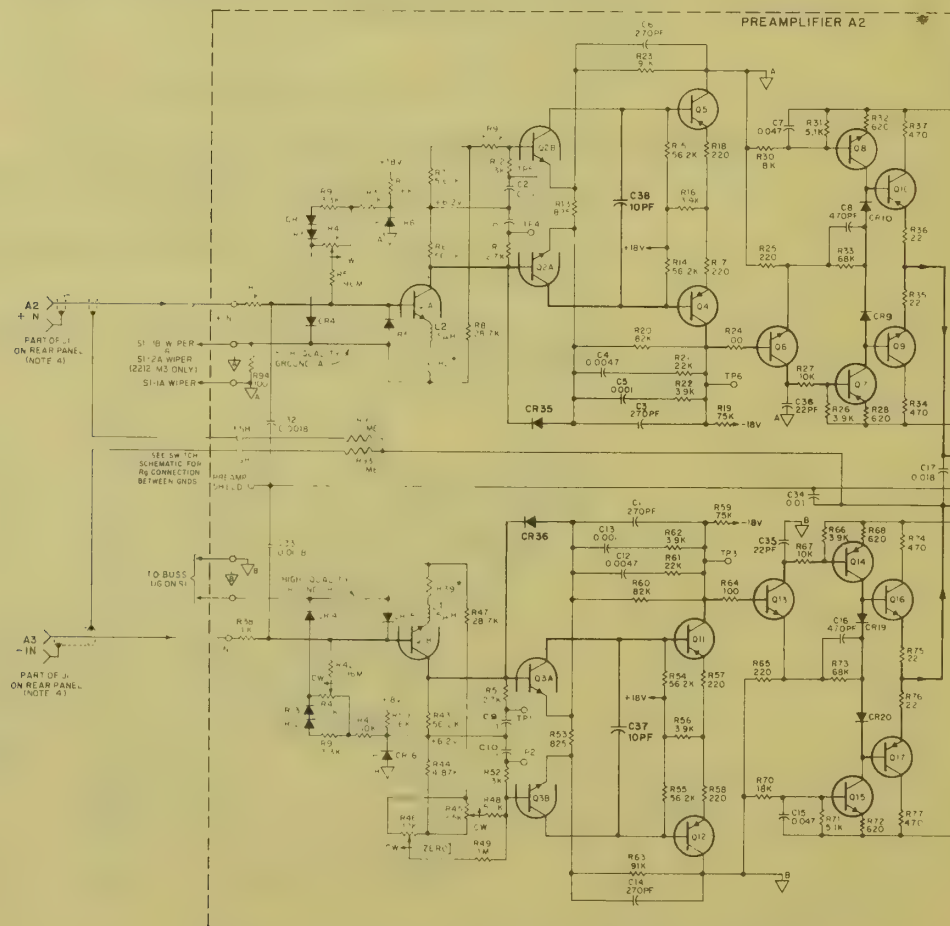

Figure US-12. Changing Preamplifier Assembly A2 Schematic
- 21 Page 5-7: Delete CR7, CR8, CR17, and CR18 from Figure 5-4, and add CR35 and CR36 as shown in Figure US-12.